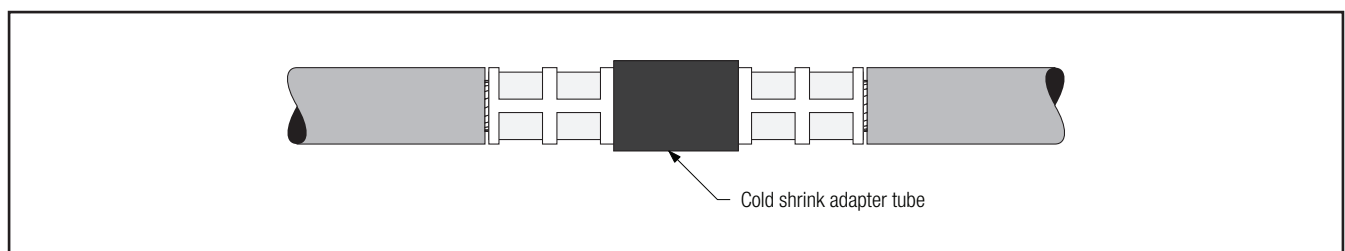

Figure 13
- 4.2 **If using cold shrink adapter tube:** Position adapter tube over the connector. Shrink adapter near center of connector by pulling and unwinding the loose core end in a counter-clockwise direction (*Figure 13*).